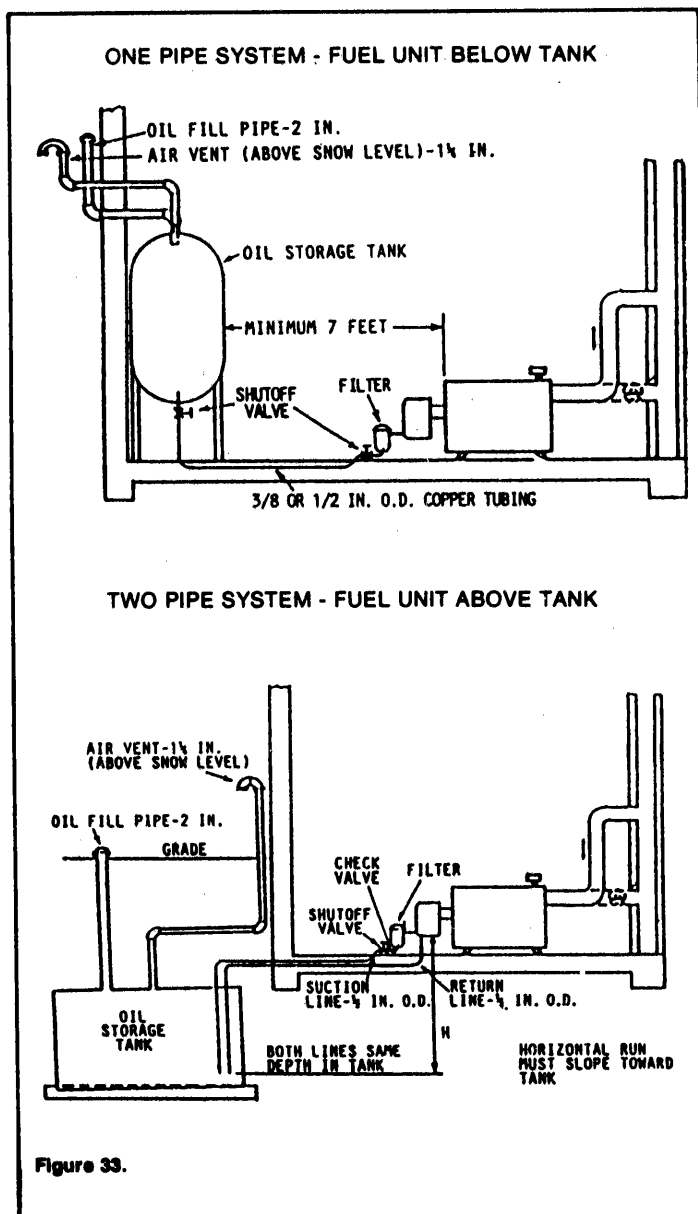

Figure 33.
- a) Fuel Oil Tank level with or above burner — For this system use a single stage pump with a one pipe gravity system as described in 1.(b). See also Figure 33.
- b) Fuel Oil Tank below level of Burner — if the lift (H) does not exceed 10 feet, use a single stage pump. If the lift (H) is greater than 10 feet, use a two-stage pump.
In both cases a two-pipe system with a return line must be employed as described in 1.c). See also Figure 33. The by-pass plug must be inserted in the fuel pump with the two pipe system.